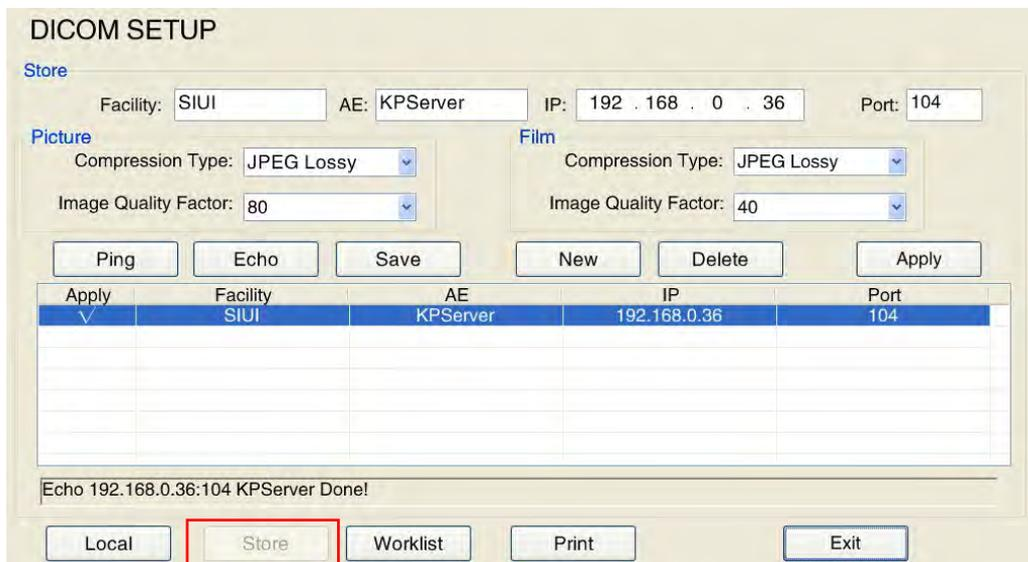

Fig. H-8 DICOM Store Setup screen
- 3) Click on the **Store** button to call up the "DICOM Store Setup" screen, as shown in Fig. H-8. Fill in the **Facility**, **AE**, **IP** and **Port** of DICOM server, then click **Echo**. If the connection is successful, click on **Save**. The server-related information will be displayed in the table below. Select the information and click on **Apply** to start the transfer. For other specific operations, see the description in **5.2.11.2 DICOM Store**